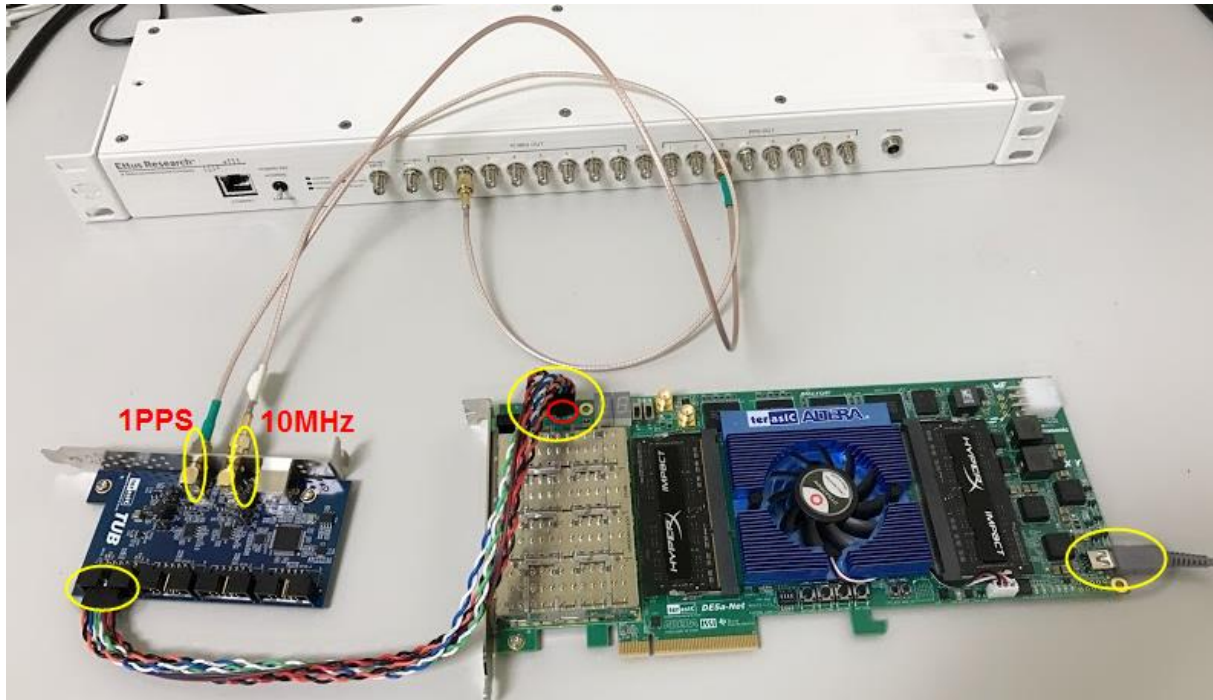

Figure 4-1 Setup TUB_CLK_VERIFY Demo
Figure 4-1 shows the screenshot of the demo setup. Here are the step by step procedure to perform the test:
4. Connect DE5a-NET and your Host PC USB port with an USB cable. (see **Figure 4-1**)
5. Connect TUB GPIO-1(J2) port and DE5a-NET with the 2x5 Cable came with this kit. (see **Figure 4-1**)
6. Provide 1PPS and 10MHz clock to TUB. (see **Figure 4-1**)